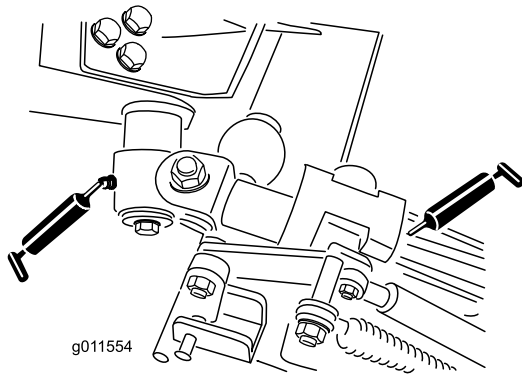

Figure 69
- Bell crank pivot bushings (2) (Figure 69)
- Rear arm bushings (4) (Figure 69)